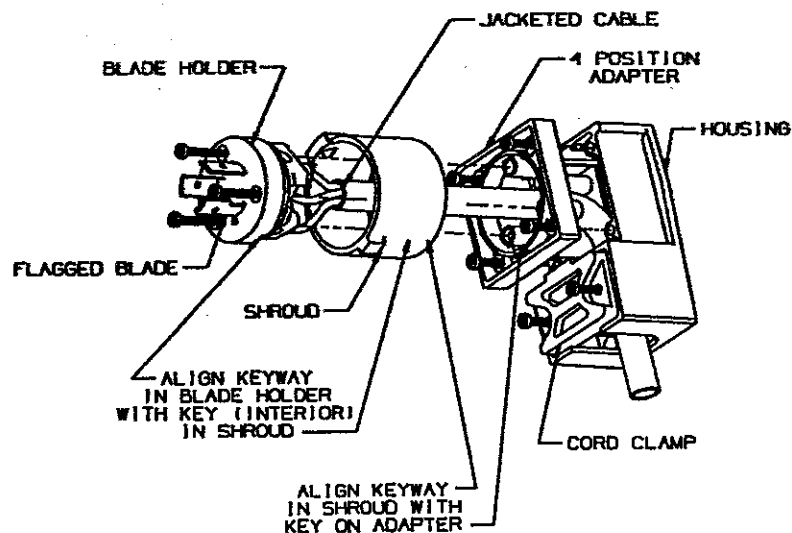

FIG. 1
- a. Align assembly keys on blade holder, shroud, and adapter. TAKE CAUTION THAT BLADE HOLDER IS PROPERLY ORIENTED AND FULLY SEATED IN THE SHROUD. See Fig. 1.